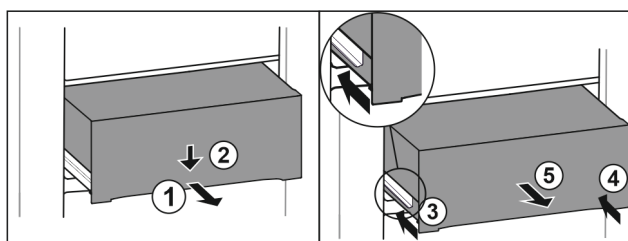

Fig. 164
- Pull out drawer half-way. Fig. 164 (1)
- Push the drawer down at the front. Fig. 164 (2)
- Push the left rail in by about 2 cm. Fig. 164 (3)
- Push the right rail in by about 2 cm. Fig. 164 (4)
- Remove drawer to the front. Fig. 164 (5)